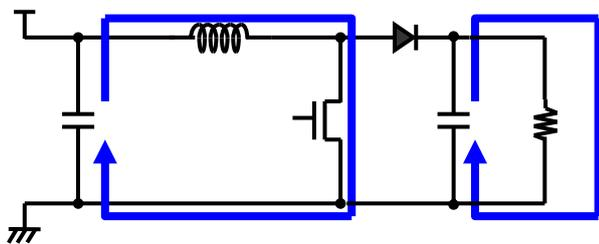
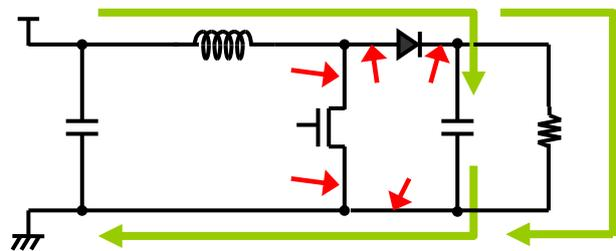
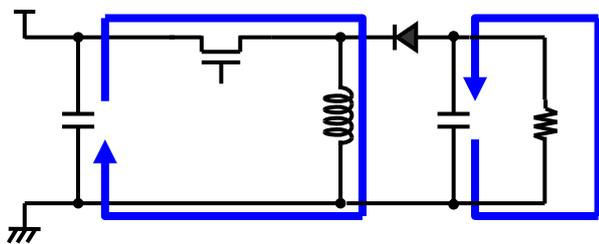

Fig.1 MOSFET-ON(BOOST)
Fig.2 MOSFET-OFF(BOOST)
Fig.3 MOSFET-ON(INVERTING)
The current paths in an application circuit are shown in Fig.1 and 2(Boost) and Fig.3 and 4(Inverting).
A current flows through the paths shown in Fig.1(Fig.3) at the time of MOSFET-ON, and shown in Fig.2(Fig.4) at the time of MOSFET-OFF.
In the paths pointed with red arrows in Fig.2(Fig.4), current flows just in MOSFET-ON period or just in MOSFET
-OFF period. Parasitic impedance / inductance and the capacitance of these paths influence stability of the system and cause noise outbreak. So please minimize this side effect. In addition, please shorten the wiring of other current paths shown in Fig1 ~ Fig4.